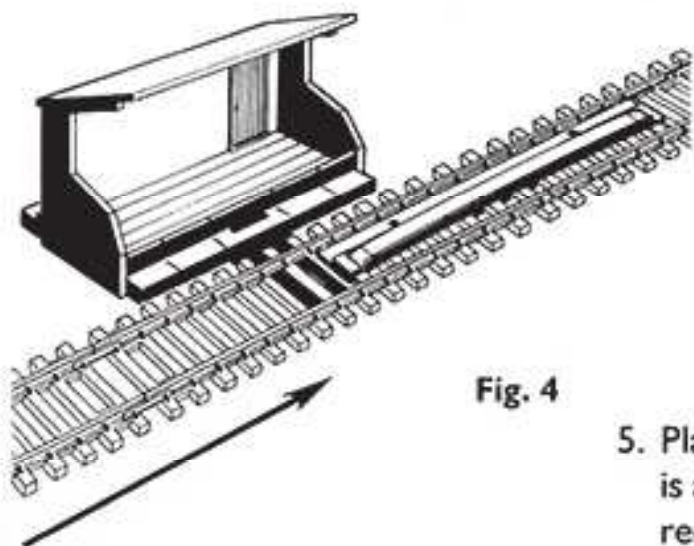

Fig. 4
4. Fit the receiving bin base to the track in the position shown in Fig.2. Fit the second ramp with the raised side of the the ramp section to the **right** of an approaching train and located relative to the base as illustrated in Fig.4.